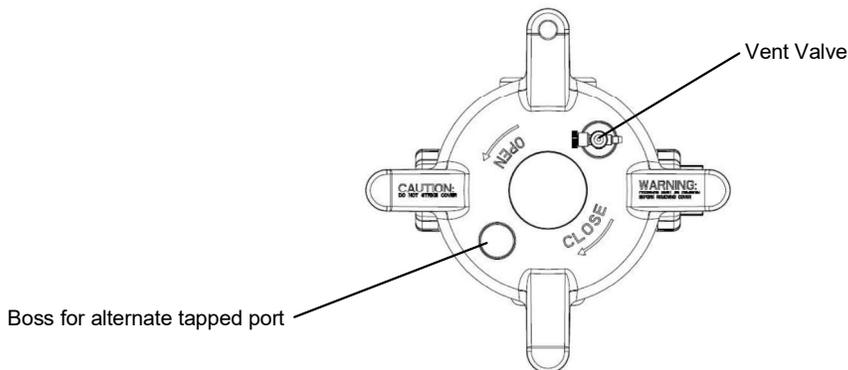

Fig. 3: Vent valve and additional boss on cover (top view)
1.6.1.2 Remove threaded pipe plug from vent valve located on top of filter vessel cover. (See fig. 3.)